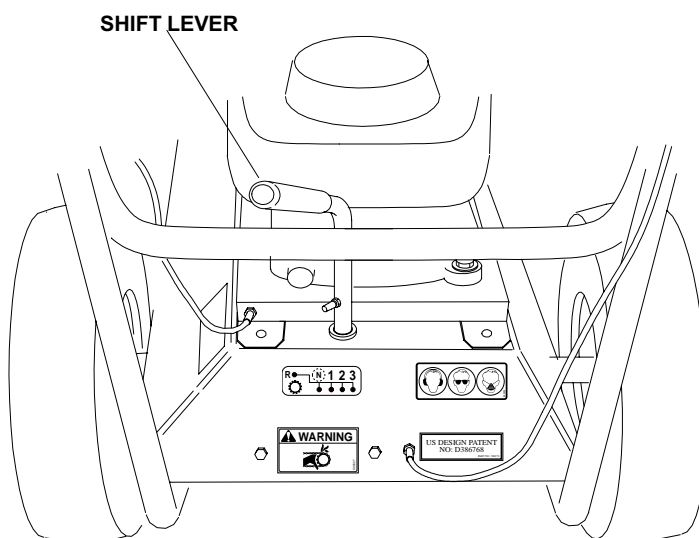

Fig. 2
**GROUND SPEED** can be varied by selecting a higher or lower gear using the gear shift lever at the rear of the machine (See Fig. 2), or by changing the engine rpm. To shift the Brush Cutter into reverse, release all controls and rotate the shift lever to the left, when the lever stops lift it up and continue to turn it to the left until it stops again.